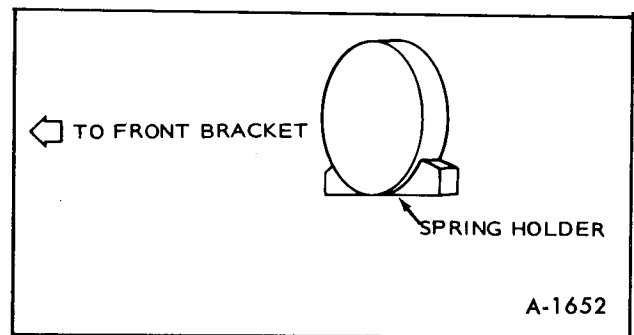

Figure 73—Spring Holder Placement
5. Place the lever spring and the spring holder into the front bracket with the direction shown in Figure 73.